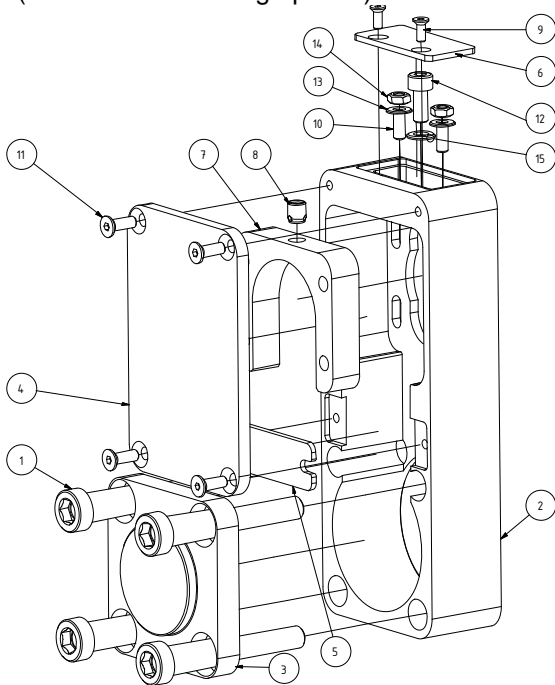

Figure 18: Parallel housing
- ◆ Dismantle lid (please refer to Figure 18: Parallel housing Pos.6) and screws (please refer to Figure 18: Parallel housing Pos. 9) .
- ◆ Dismantle lid (please refer to Figure 18: Parallel housing Pos.4) and screws (please refer to Figure 18: Parallel housing Pos. 11) .
- ◆ Loosen central toothed belt screw (please refer to Figure 18: Parallel housing Pos.12).
- ◆ Loosen tightening screw (please refer to Figure 18: Parallel housing Pos.12) until the drive unit is not lowered any further.
- ◆ Mount lid (please refer to Figure 18: Parallel housing Pos.6) with screws (please refer to Figure 18: Parallel housing Pos.9).
- ◆ Mount lid (please refer to Figure 18: Parallel housing Pos.4) with screws (please refer to Figure 18: Parallel housing Pos.11).